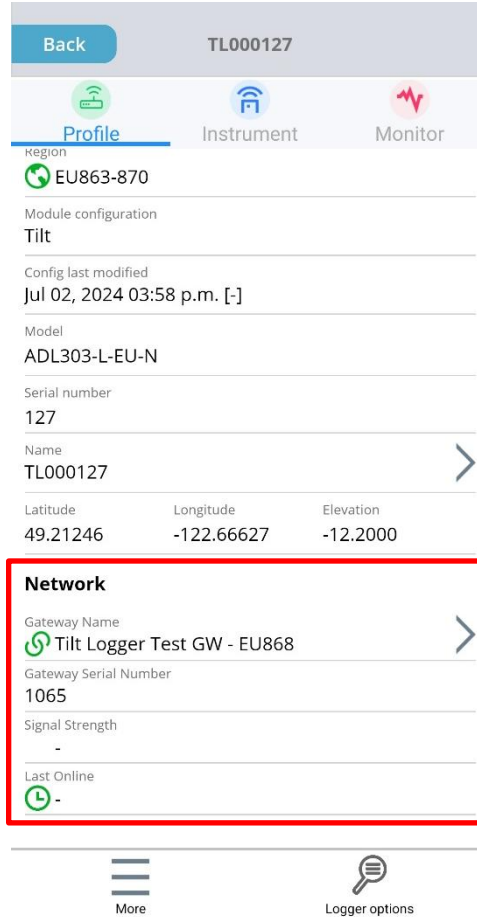

Figure 11: Main Dashboard Populated with Selected Gateway’s Details
- After selecting a Gateway, the user will be returned to the Main Dashboard. Gateway information will populate, replacing the “Pair Gateway” option (see Figure 11).